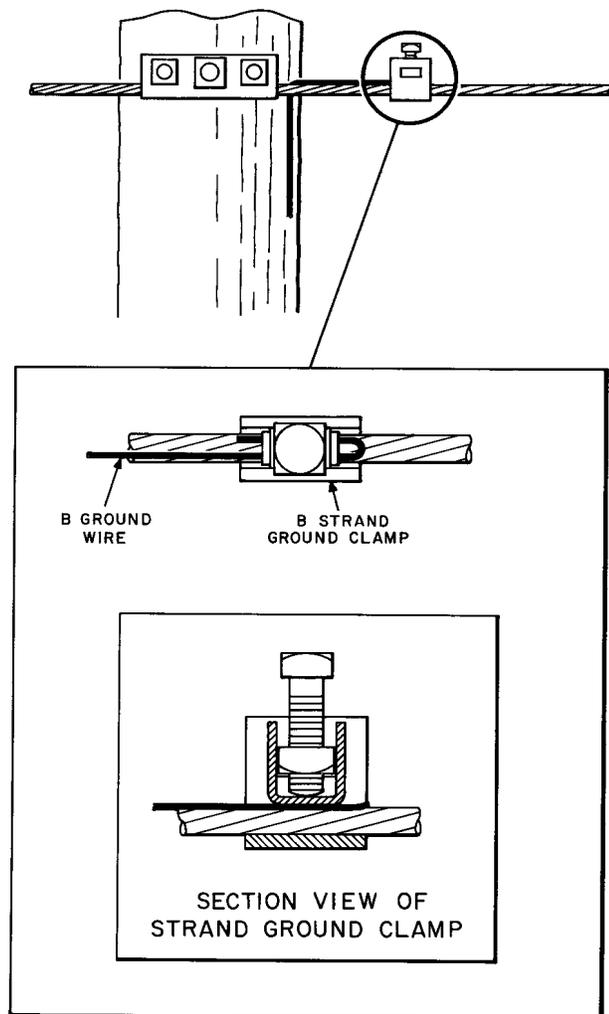

Fig. 10—Method of Attaching Ground Wire to Strand
- (e) Attach the ground wire to suspension strand by means of a strand ground clamp located as close to the pole as practical, and in such a position that it will not interfere with drop wire runs. Bend the wire back on itself for a length of about 2 inches, insert the loop of wire between the strand and bolt, and tighten the bolt. See Fig. 10.